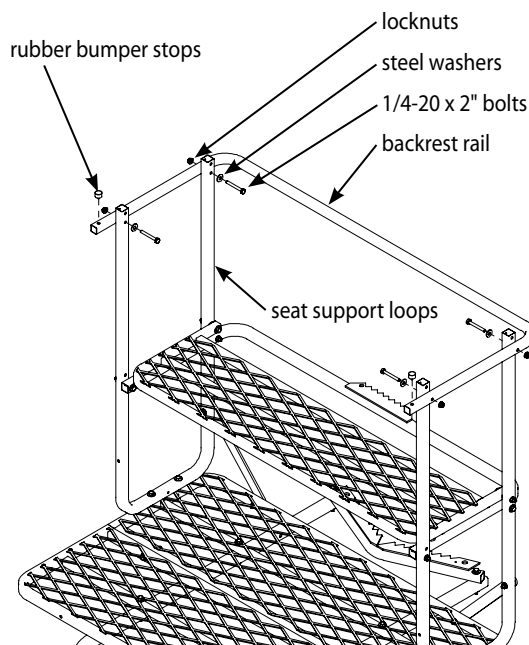

Figure 5
8. Attach the backrest rail (2ML65) to the outside lower set of holes at top ends of side seat support loops using (4) provided 1/4-20 x 2" bolts, locknuts, and steel washers. **SEE FIGURE 5.** Press the (2) provided rubber bumper stops into top side holes of backrest rail. **SEE FIGURE 5.**